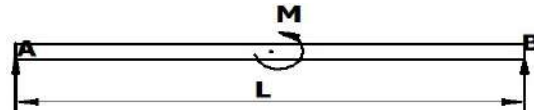

Figure 21
11. Draw the SFD & BMD for the overhanging beam shown in **Figure 21**. Indicate all significant values including point of contra-flexure.